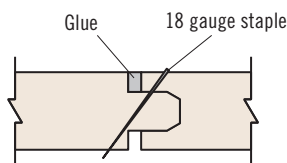

Figure 10
- Apply a continuous bead per manufacturer's instructions to the top of framing members. Use a serpentine pattern on supports that are $3\frac{1}{2}$ " or wider. Apply two beads of glue at panel joint locations. A $\frac{1}{8}$ " diameter glue bead applied at the T&G joints can further improve floor performance. See *Figure 10*.
Cut a shallow saw kerf at the panel joint; be careful not to cut the tongue of the joint. Make sure the cut is free of debris, then fill the gap with adhesive. Staple the joint using 1" x $\frac{3}{8}$ " 18-gauge staples at 6" on-center. See *Figure 10*.